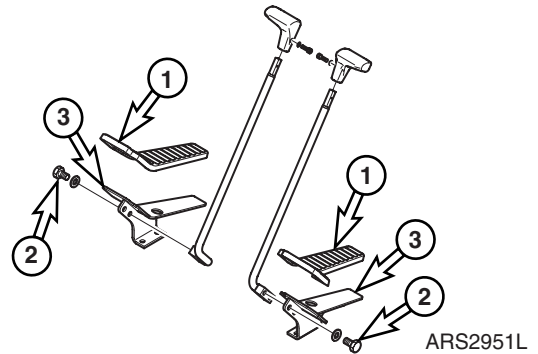

Figure 48
2. Install pedal brackets (3) and levers (4, Figure 48) on pedal valve and install four bolts and washers (2).
3. Install rubber boots (1, Figure 48).